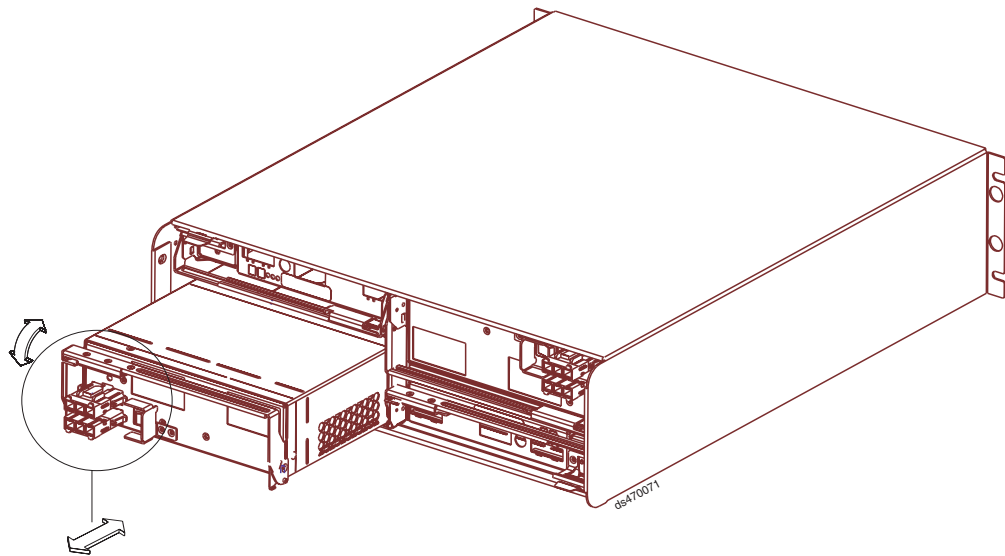

Figure 65. Replacing a dc power supply and fan unit
11. Slowly pull the lever away from the chassis to remove the dc power supply and fan unit, as shown in Figure 65 on page 124.